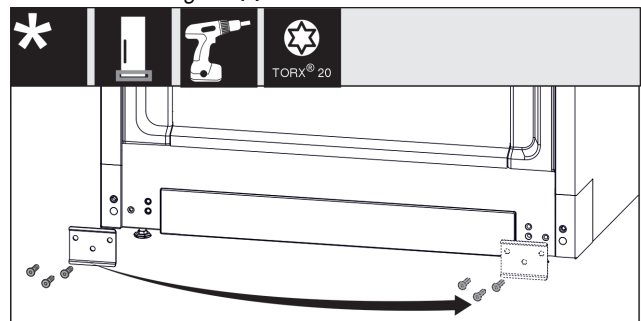

Fig. 20
- ▶ Unscrew the plate Fig. 20 (1), move it to the other side and screw it back on.